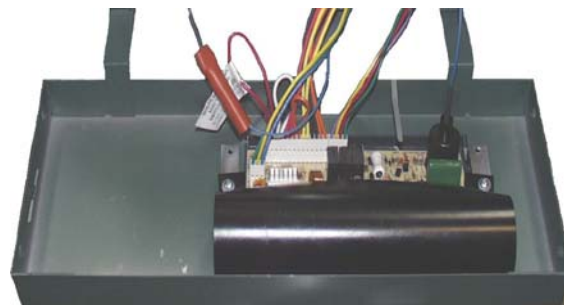
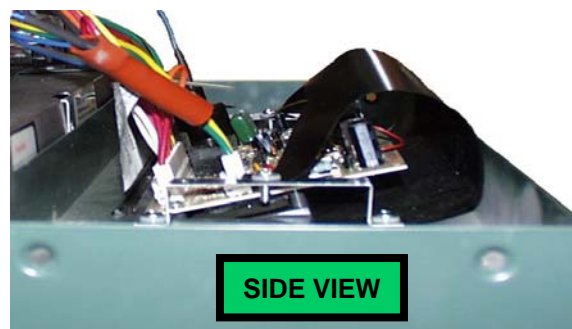

Fig. 33
Fig. 34
3. Install the plastic shield over the board and attach to the brackets using the screws and washers provided in the kit. See **Fig. 33** and **Fig. 34**.